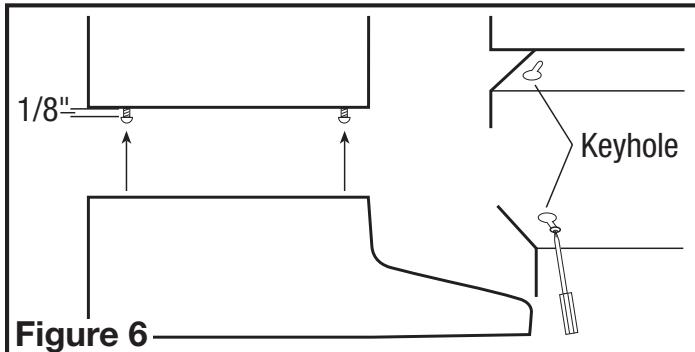

Figure 6
- Install the 4 mounting screws at the previously marked locations. Leave approximately 1/8" clearance. Slide the hood in place through the keyhole slots and align the front of the hood so that it is flush with the front of the cabinets. Tighten all screws securely (Figure 6).